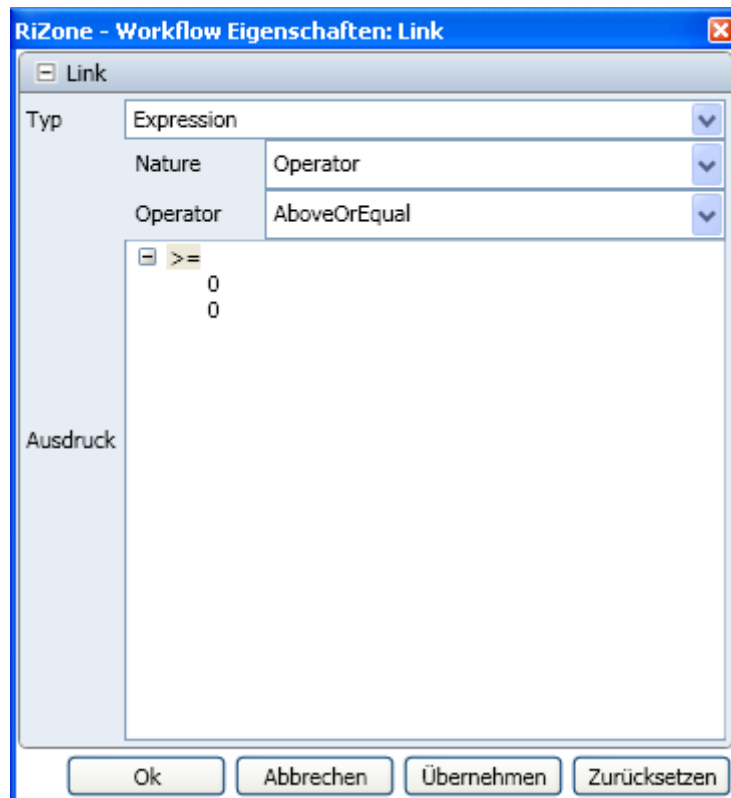

Fig. 38 Properties of an outgoing Data Gateway edge
1. Select the **Operator** in the lower window. The AboveOrEqual operator is selected in figure 38. Possible operators are: **Equal**, **Unequal**, **Above**, **Below**, **AboveOrEqual**, **BelowOrEqual**, **And**, **Or**.